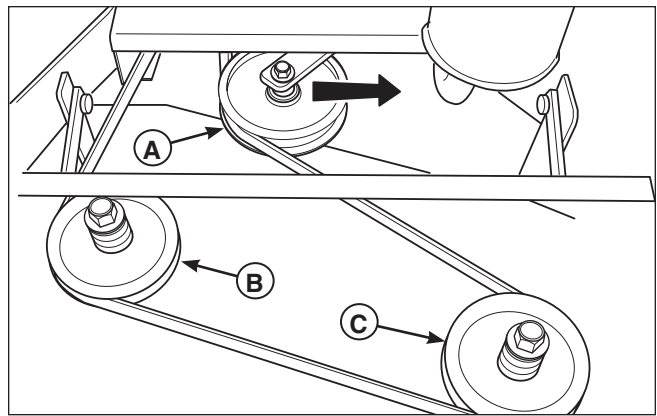

Figure 16. Mower Deck Drive Belt (32" Model)
3. Push the idler arm towards the left-hand side of the machine (non-discharge side) to release the spring tension on the drive belt. (See Figure 16)
4. Slide the drive belt over the edge of the idler pulley (A). Release the idler arm.
6. Install the drive belt on the spindle pulleys and the PTO clutch pulley. Again, push the idler arm towards the left-hand side of the machine and install the belt onto the idler pulley (A).